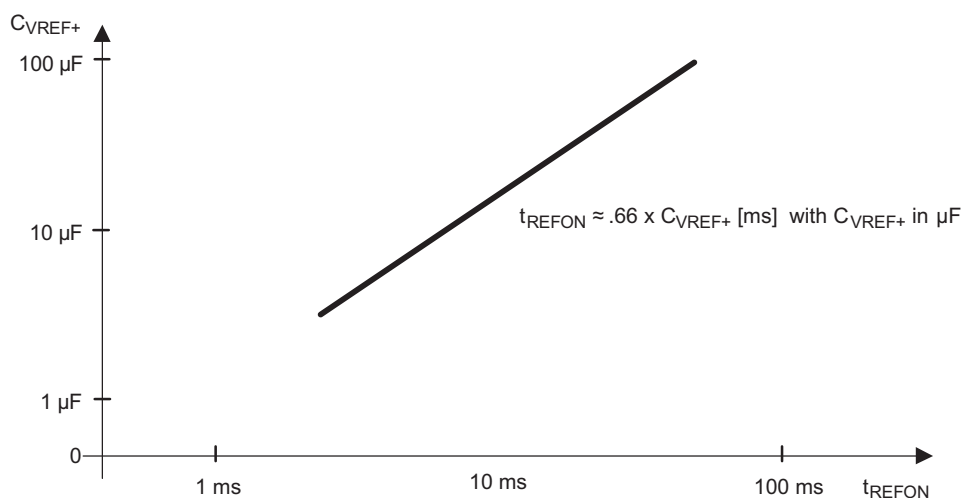

**Figure 38. Typical Settling Time of Internal Reference tREFON vs External Capacitor on VREF+**
| t REFON     | Settle time of internal reference voltage (see Figure 38) (4) (2)I VREF+ = 0.5 mA, C VREF+ = 10 μF,V REF+ = 1.5 V, V AVCC = 2.2 V               |                | 2.2 V           |      |     | 17   | ms     |
(1) Not production tested, limits characterized.
(2) Not production tested, limits verified by design.
(3) The internal buffer operational amplifier and the accuracy specifications require an external capacitor. All INL and DNL tests uses two capacitors between pins VREF+ and AVSS and VREF/VBREF and AVSS: 10 μF tantalum and 100 nF ceramic.
(4) The condition is that the error in a conversion started after tREFON is less than ±0.5 LSB. The settling time depends on the external capacitive load.